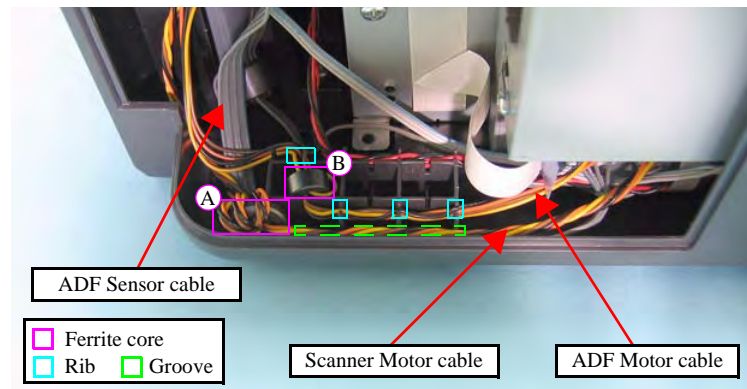

Figure 4-7. Routing the cables
1. Route the ADF Sensor cable through the groove shown in Figure. 4-7 and connect it to connector CN25 on the Main Board.
2. Secure the ferrite core A of the Scanner Motor cable to the place shown in Figure. 4-7, and route the cable over the ADF Sensor cable, then connect it to connector CN10 on the Main Board.
3. Secure the ferrite core B of the ADF Motor cable to the place shown in Figure. 4-7 and route the cable through the ribs (x4).